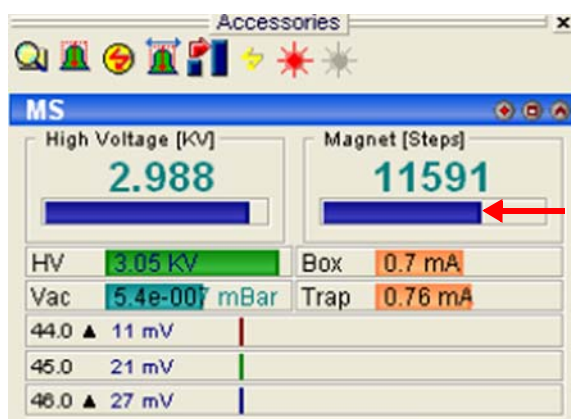

Figure 6-9. Selecting a Value for “Magnet”
Individual masses are selected by controlling the current in the magnet at a given high voltage (HV). This can be done by selecting different values for “Magnet” in the “MS” panel. See Figure 6-9.